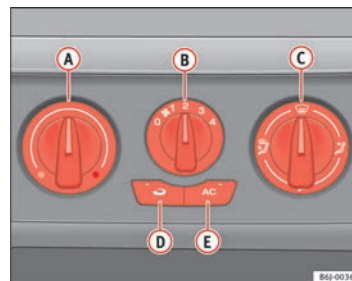

Fig. 96 Air conditioning controls on the dash panel
- Using the controls ⇒ fig. 96 **A** and **C** and with the switch **B** you can adjust the temperature, the air distribution and the blower speed.